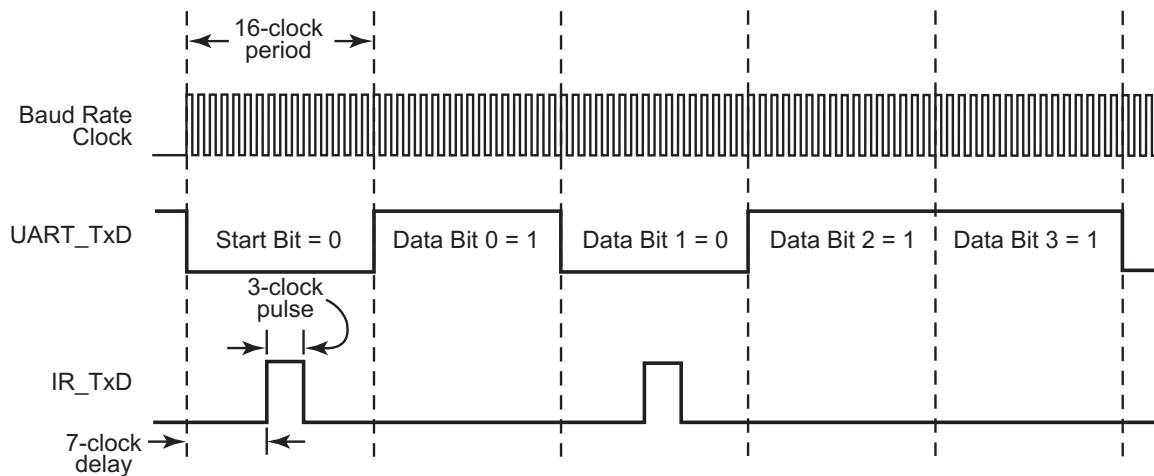

Figure 26. Infrared Data Transmission
Each UART bit is 16-clocks wide. If the data to be transmitted is a logical 1 (High), the IR_TxD signal remains Low (0) for the full 16-clock period. If the data to be transmitted is a logical 0, a 3-clock High (1) pulse is output following a 7-clock Low (0) period. Following the 3-clock High pulse, a 6-clock Low pulse completes the full 16-clock data period. Data transmission is illustrated in Figure 26. During data transmission, the IR receive function should be disabled by clearing the IR_RxEN bit in the IR_CTL reg to 0. The SIR data format uses half-duplex communication; the UART does not transmit data while the receiver decoder is enabled.